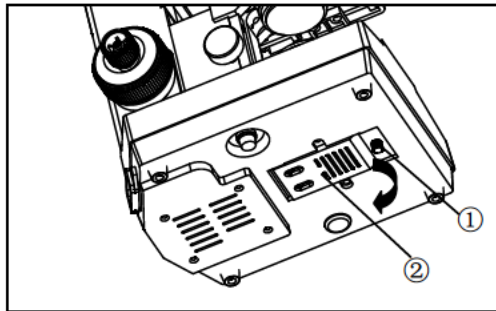

Fig.11
2.2.7 Installing and replacing the lamp (Fig.11、 12)